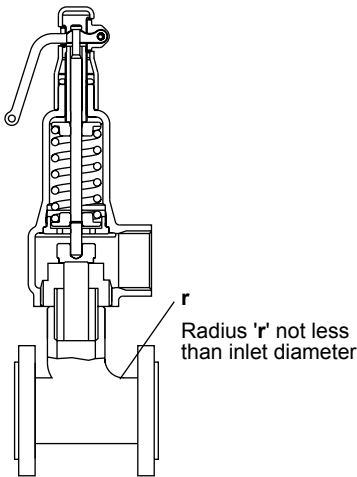

Fig. 7
- 6.4** The inlet pipe connection should not be smaller than the valve (see Figures 7 and 8).
Inlet branches should be as Figure 7 or 8.